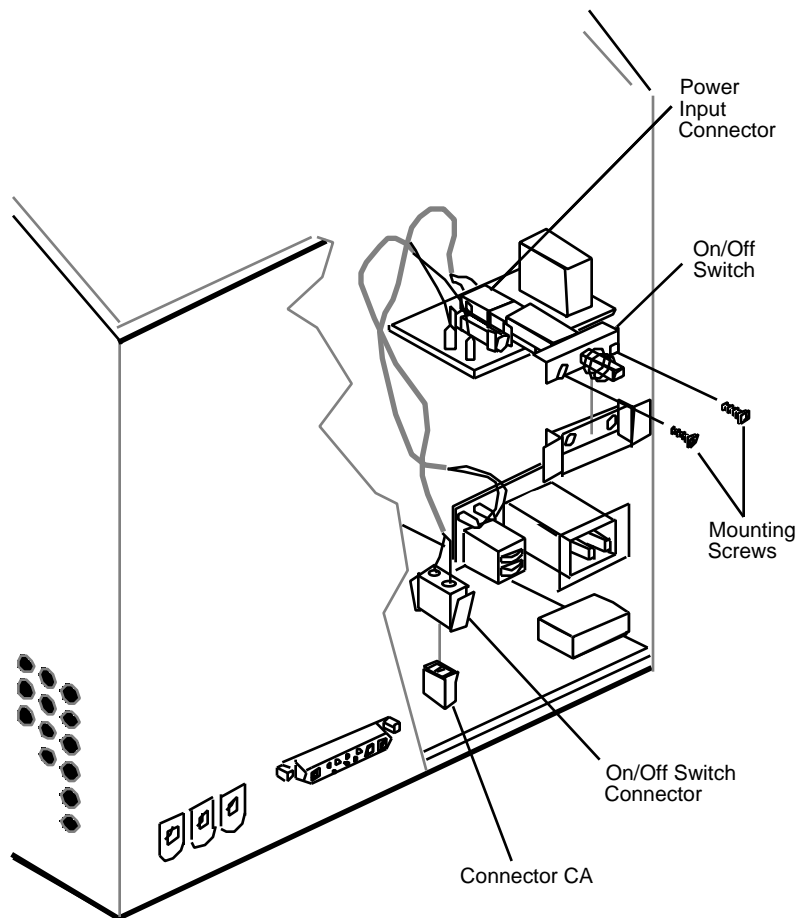

FIGURE 15
5. Disconnect the power input connector (**Figure 15**) from the connector on the on/off switch board.
6. Remove two mounting screws (**Figure 15**), and remove the on/off switch from inside the chassis.